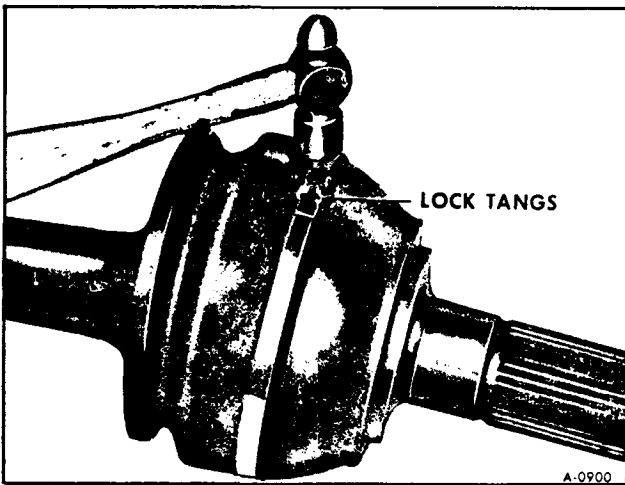
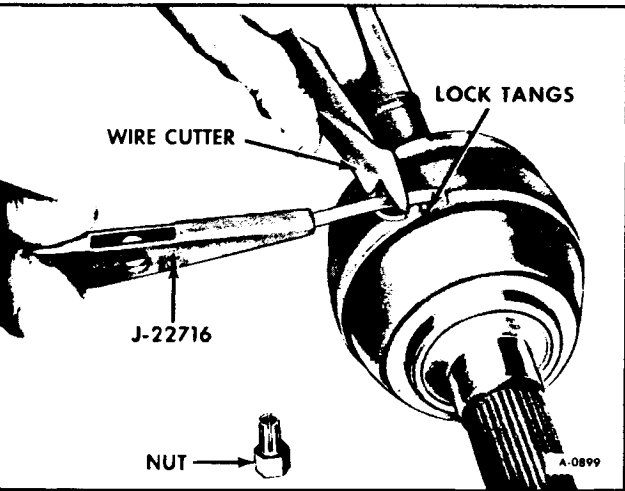

Figure 19-Bending Lock Tangs
Figure 18-Cutting Off Band
g. Back tool off just enough to permit tapping band with a hammer until it lies flat across top of retainer. Unwind the excess strap and cut it off close to retainer as shown in Figure 18. Tap the tabs down until they retain strap. Tap lightly as excessive force will damage seal (see figure 19).